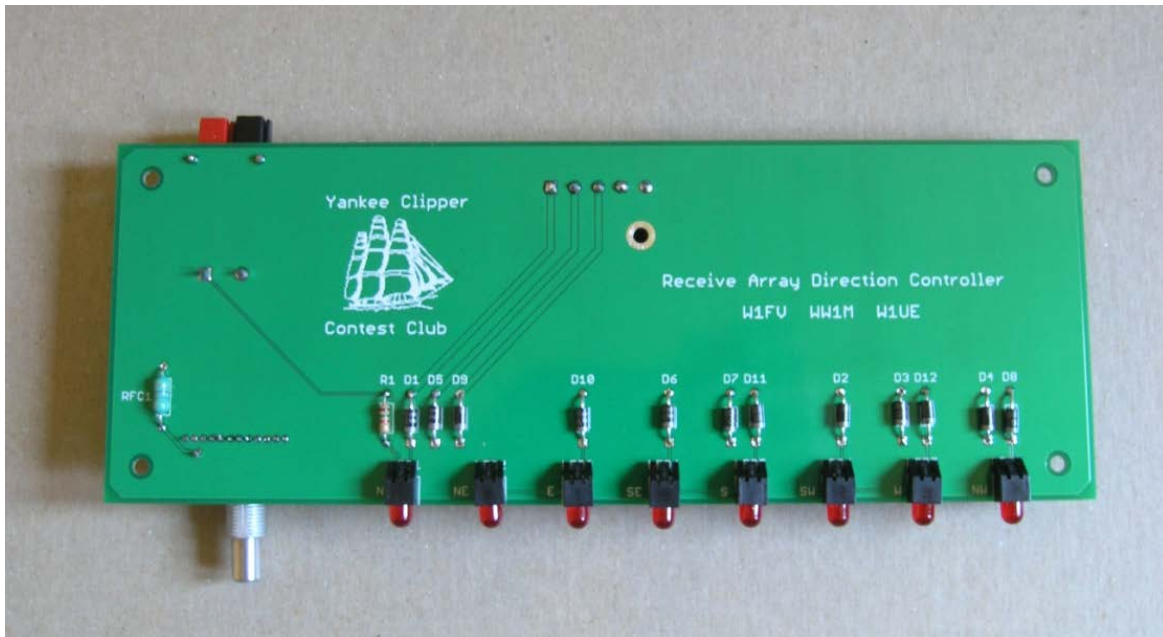
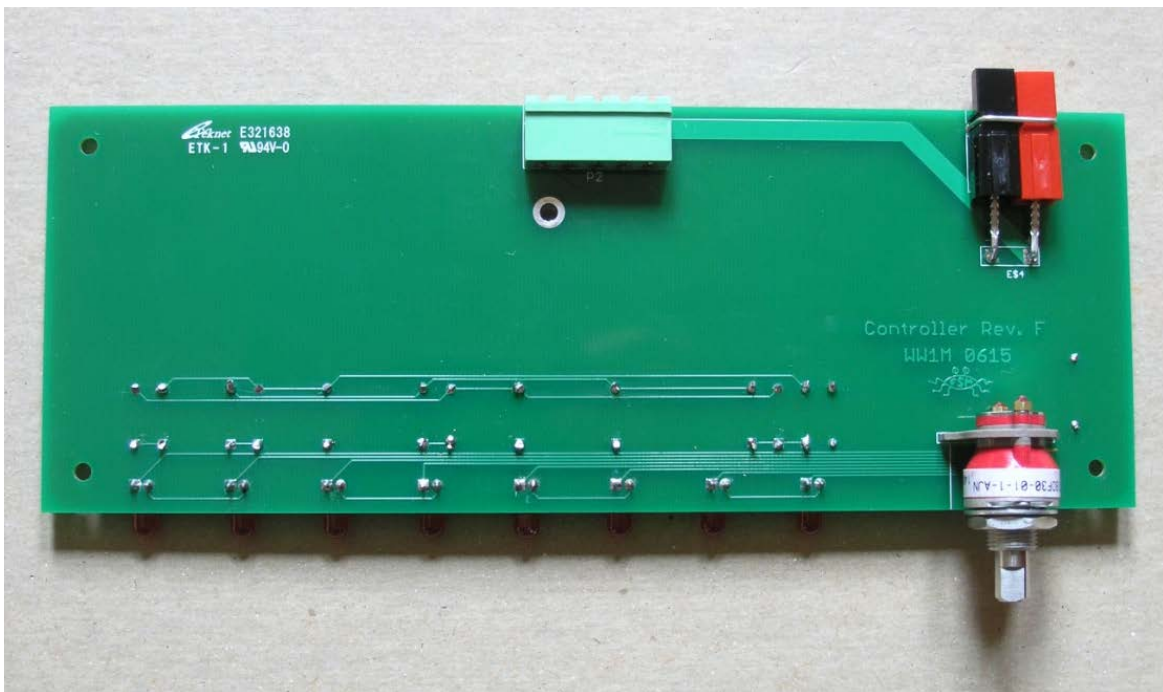

Figure 26. Top side of direction controller PCB
Figure 27. Bottom side of direction controller PCB
2. Looking at the top (component) side of the board, you will see the part designators (for example, R1, D1, etc.) are stenciled on the board. The top side of the PCB is also identified by the Yankee Clipper Contest Club logo stenciled on the board. All components except the terminal block, rotary switch, and DC power connectors mount to the top side of the PCB. Refer to Figure 26 and Figure 27 as you follow these instructions.
6. Install and solder eight LED's, (N, NE, E, SE, S, SW, W, NW). Be careful not to bridge solder across the LED leads on the bottom side of the board. Be sure the LED's are lined up straight and facing outward from the board edge as shown in Figure 26.
11. Mount the connector on the bottom side of the PCB and solder the pins on the top side as shown in Figure 27.
13. Cut off all excess lead lengths on both sides of the PCB and check carefully for solder bridges. The finished PCB should like Figure 26 from the top and Figure 27 from the bottom.